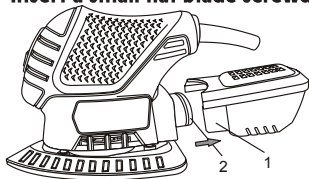

Fig. 2
Grasp the sides of the dust box (1) and pull it away from the rear of the dust chute (2) (Fig. 2).